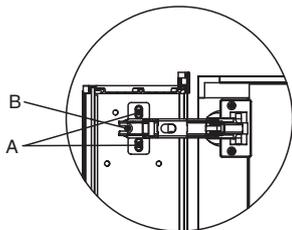

Fig. 7 图7
- This screw releases the door from the cabinet and allows up and down adjustment. Fig.7-A & 8.
- These screws allow you to plumb the door as shown in Fig.7-B & 9.
此螺钉松开可将门卸下，并可作上下的位置调整，如图7-A、8所示。
这些螺钉松开可将门作如图7-B、9所示的前后的位置调整。